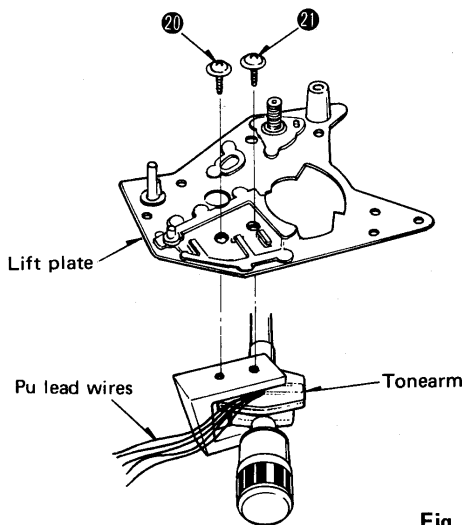

Fig. 10
● How to remove the tonearm (Fig. 10)
3. Remove the 2 setscrews [Fig. 10: ⑳ ~ ㉑] of the lift plate.